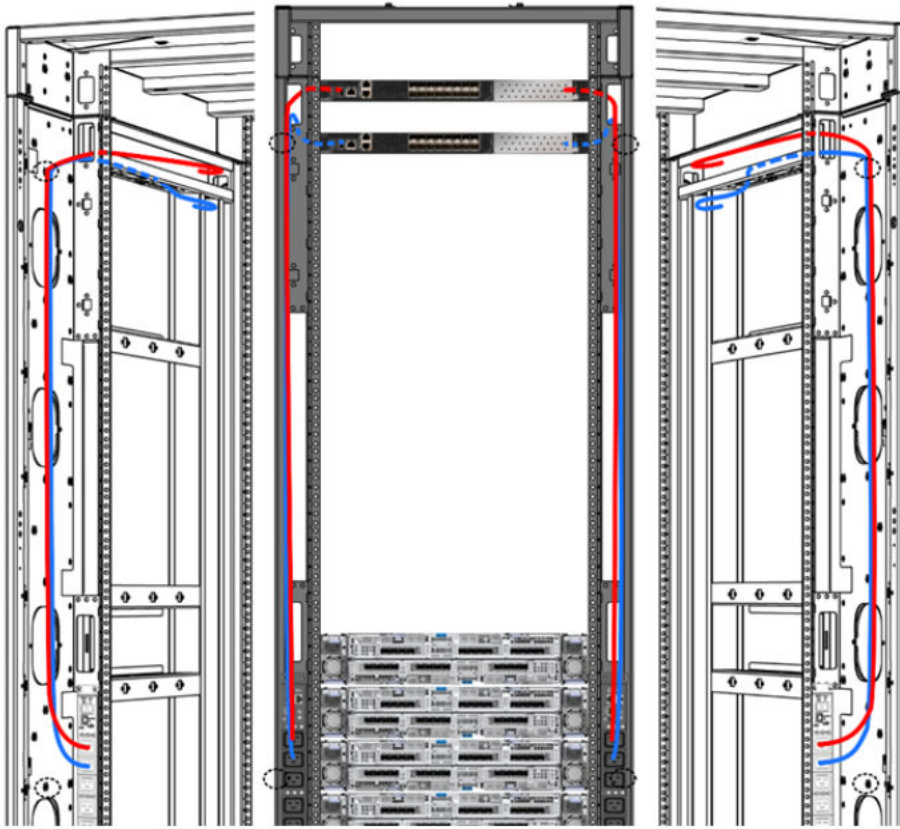

Figure 265. Power cable routes for SAN32C-6 switches (includes for optional second PSU)
1. At the rear of the rack, route a power cable from the upper outlet of the left PDU, up the rack, through the upper left cableway of the rack, to the front of the rack where the switches will be installed. If a second power supply is installed in the switch, also, route a second power cable from the upper outlet of the right PDU, through the upper right cableway of the rack, to the front of the rack where the switches will be installed. Figure 265 on page 323 shows suitable routes. Do not plug the connectors into the outlets yet.